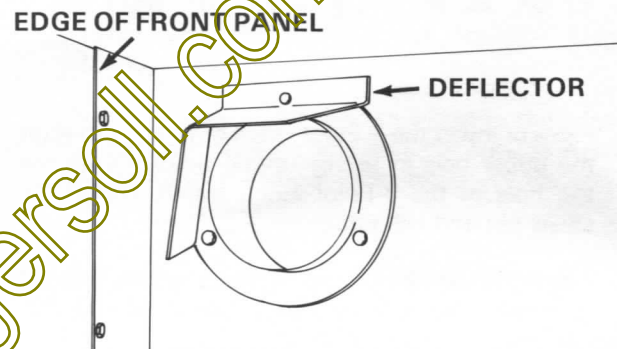

FIGURE 14
2. Attach the dump cart front panel so it laps to the inside, and attach to sides and front stakes as shown in Figure 14. Leave bolts loose.
5. Install deflector nozzle from inside of front panel. (See Figure 14.)